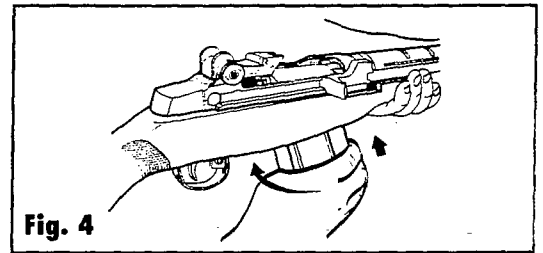

Fig. 4
2. Insert the magazine into the magazine well with the rear of the magazine slightly lower than the front. When the front of the magazine is fully inserted, firmly rock the magazine up and to the rear until it locks [see figure 4]. You may have to push hard to accomplish this. When the magazine is properly in place it cannot be removed without pressing the magazine release.